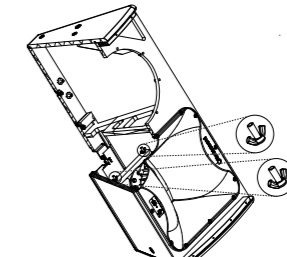

Fig. 3
4. Reach in through the bass driver cavity and loosen the two wing nuts securing the compression driver retaining brace (fig 3).
10. Tighten the wing nuts back onto the compression driver retaining brace (fig 3).